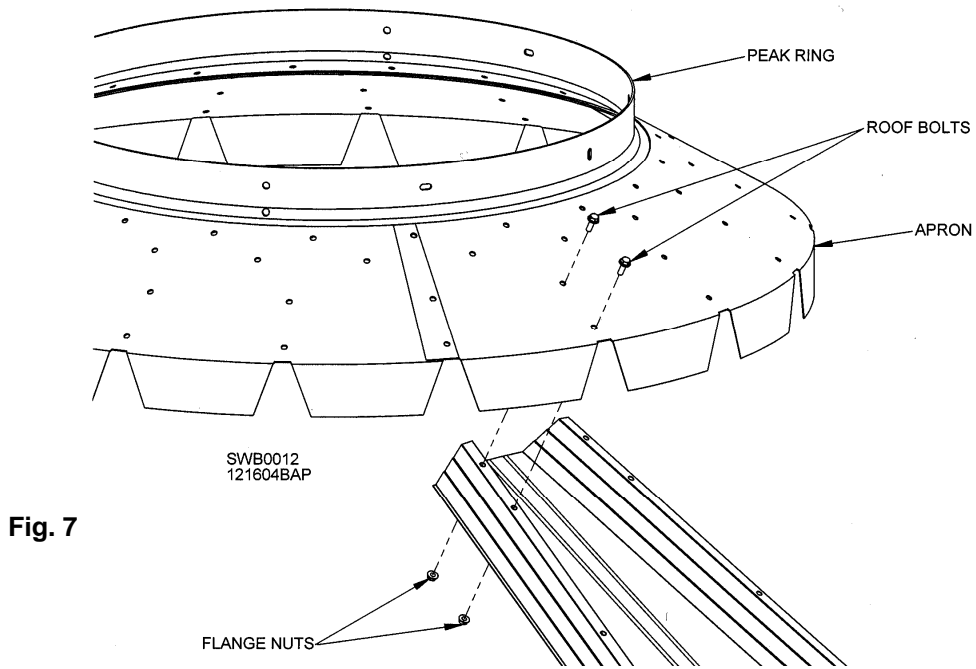

Fig. 7
Attach top of roof panel beneath peak ring and apron using two (2) 5/16 x 1-1/4" bolts and 5/16" flange nuts. See Fig. 7. Leave bolts out of right-hand rib at top (viewing panel from outside of sidewall ring). This will allow assembly in **counterclockwise** direction. Leaving this rib loose will allow next roof panel to slide into place.